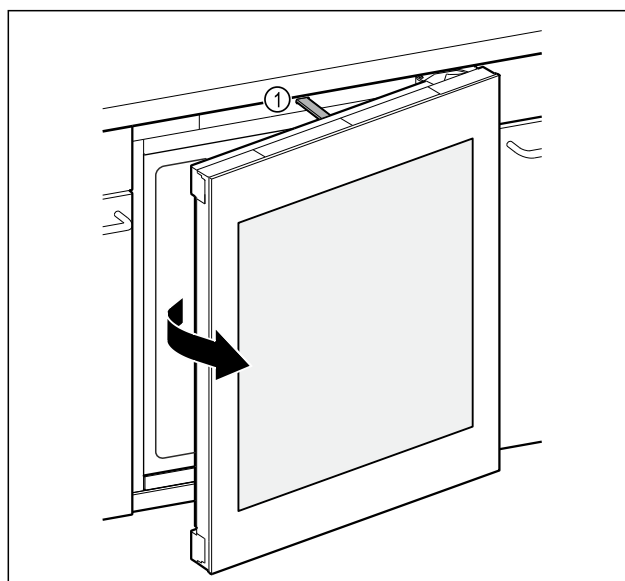

Fig. 92
- Push rod Fig. 92 (1) opens door approximately 7 cm.